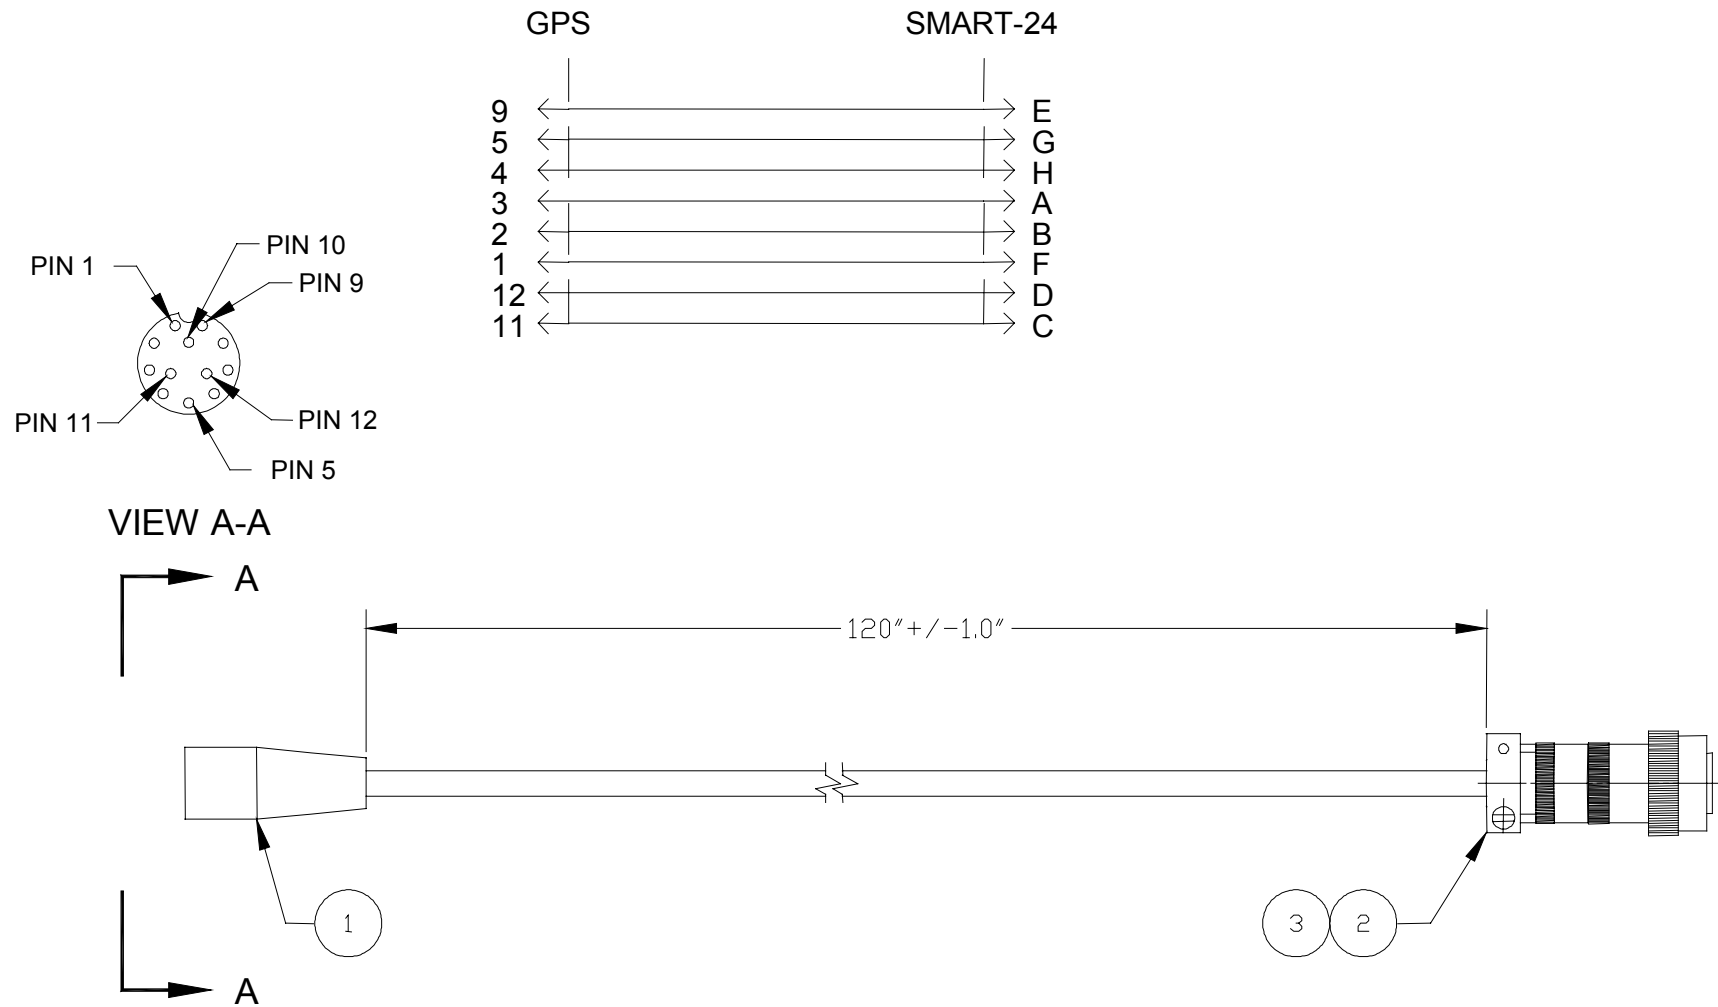

Figure A-10. SMART-24 to GPS-3 Cable
- Figure A-10. SMART-24 to GPS-3 Cable